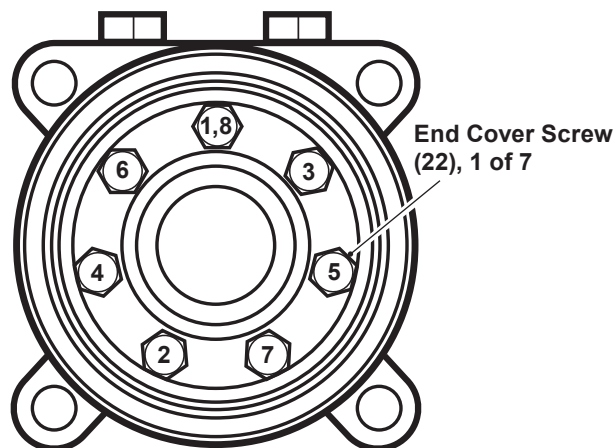

Figure 18, Torque Sequence
**Note:** When tightening the screws, refer to the table on page 3 for the required torque values. Also refer to figure 18 for the proper torque sequence.